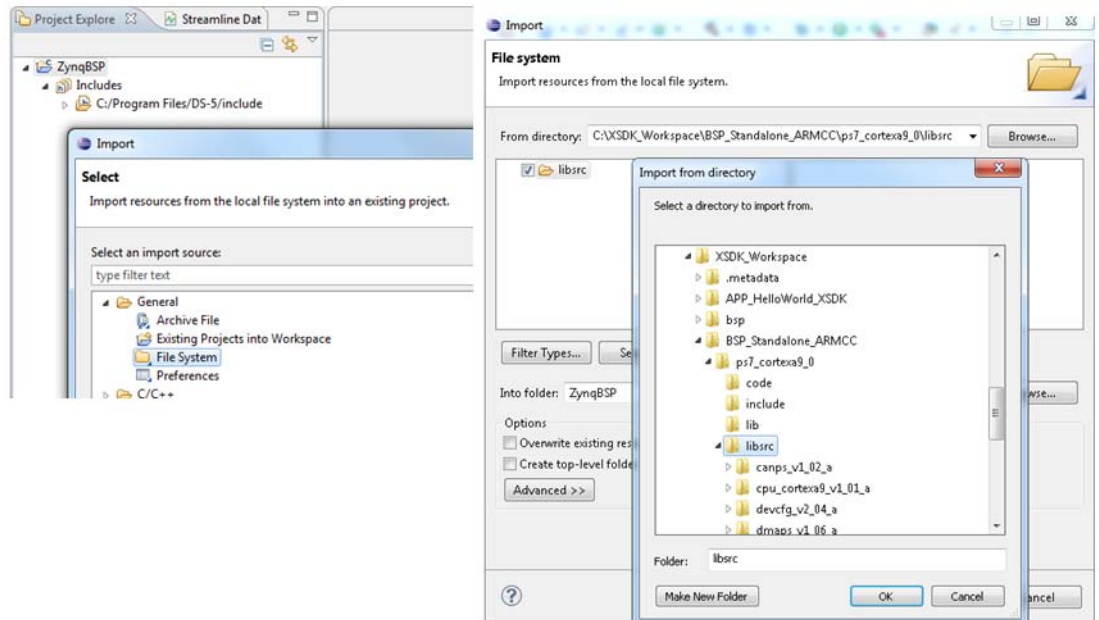

Figure 24: Importing the BSP Library Source
- d. Right-click the Zynq device BSP library project and import the Xilinx SDK-generated (ARMCC) BSP source tree, specifically, the directory tree below `libsrc`, as shown in Figure 24, below.